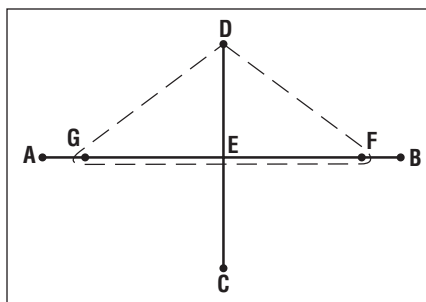

Fig. 3
3. Hold the ends of a string at G and loop the string (indicated by the dotted line) over tack F. Place a pencil against the inside of the loop, draw the string to D and hold the free ends together at G. Draw an ellipse through DBC and A by pressing the pencil firmly against the taut string (Fig. 3).